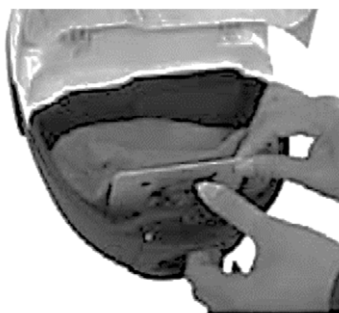

Fig 8
1. **Change the dust bag:** when the wind indicator turns to be red, it is time to clear the dust or replace with a new bag. Open the front cover by clipping. (Fig 7) Take out the bag then remove the full dust bag. (Fig 8).
2. **Installing the dust bag:** Insert the dust bag into the bag holder and then put it in the slot cabinet. (Fig 8).